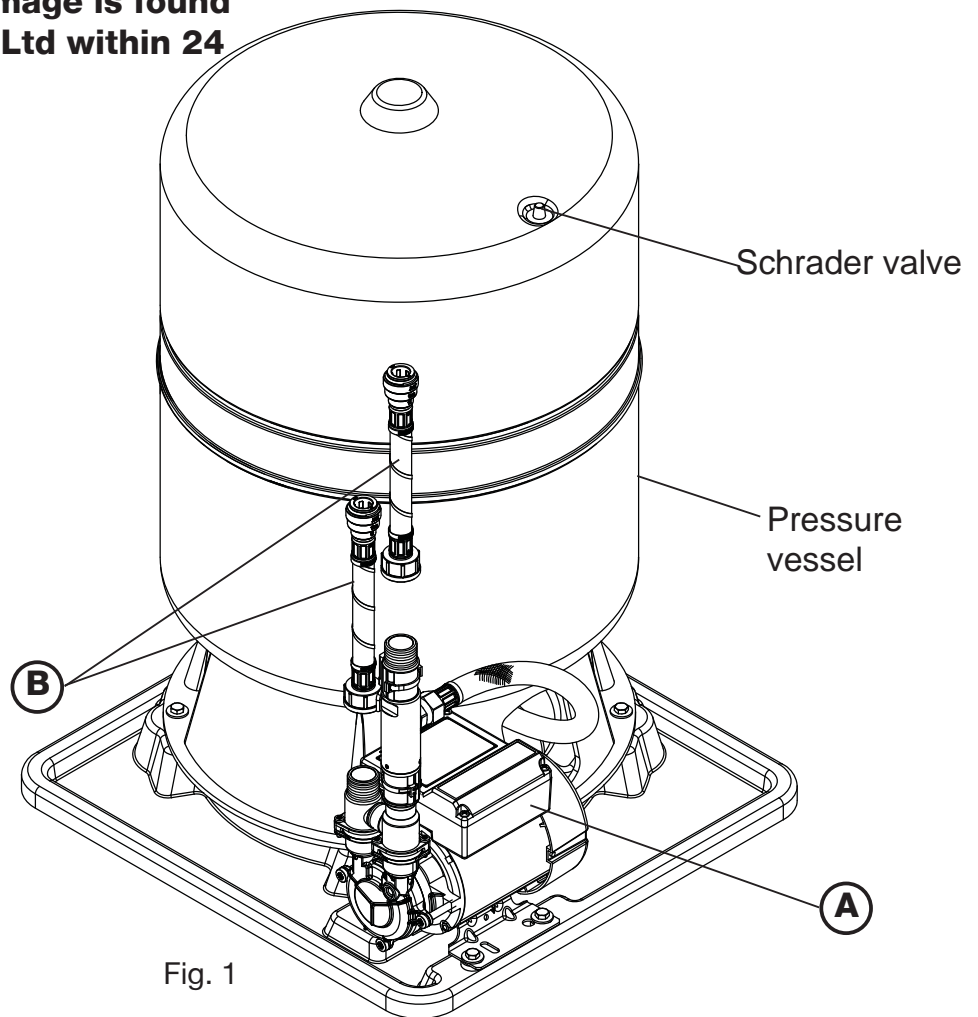

Fig. 1
- d) Check air charge at Schrader valve (Fig. 1) using a tyre pressure gauge.